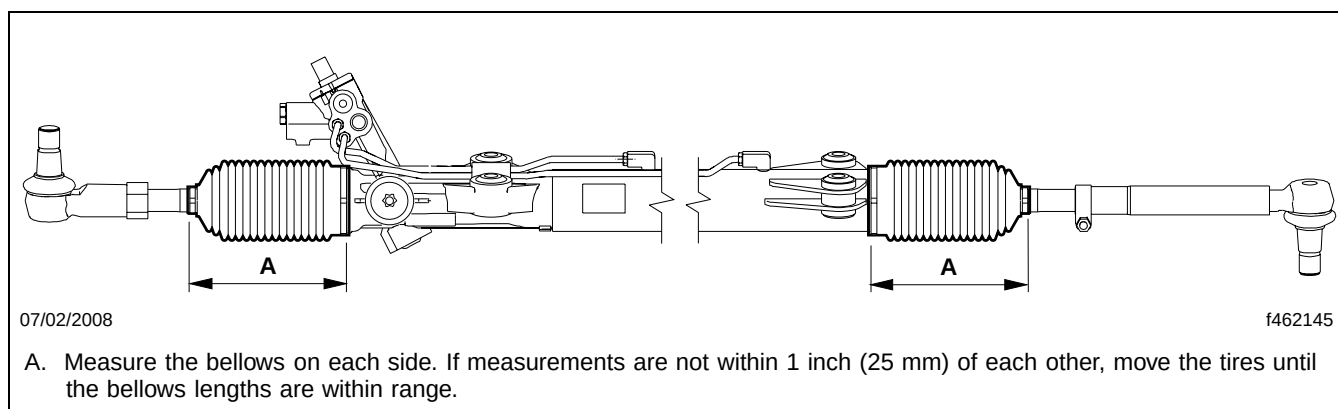

Fig. 13, Measuring the Tie Rod Bellows
- 50.1 Measure the length of the bellows from clamp to clamp on each side of the gear. See **Fig. 13**. If measurements are not within 1 inch (25 mm) of each other, move the tires until the bellows lengths are within range.